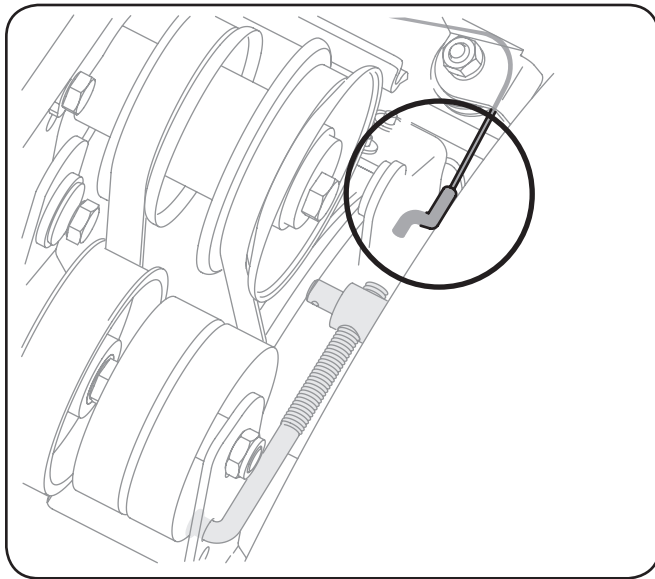

Figure 7-5
- Pull the brake bracket assembly towards the cable guide roller and unhook the auger cable "Z" fitting. Refer to Figure 7-5.